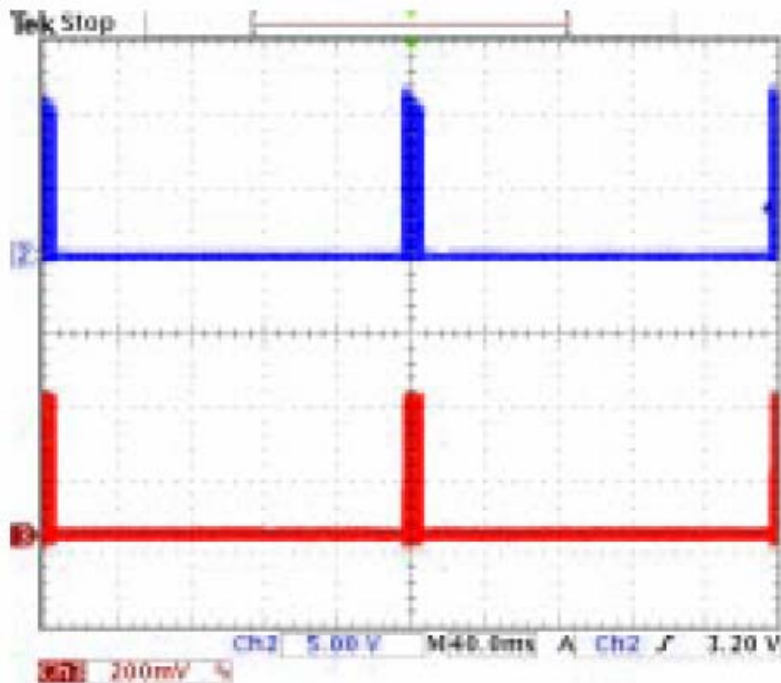

Figure 5. Gate Driver and Drain Voltage during Overload.
3.4 Increase supply voltage to 240 VAC. Gradually increase load current until board enters overload protection ( $\sim$ 2.5 A). Verify overload protection with Figure 5.